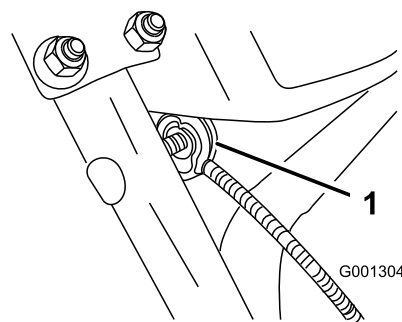

Figure 7
3. Remove the nut and washer from the handle, attach the cable clamp on the cable to the handle, insert the washer, and hand tighten the nut (Figure 7).